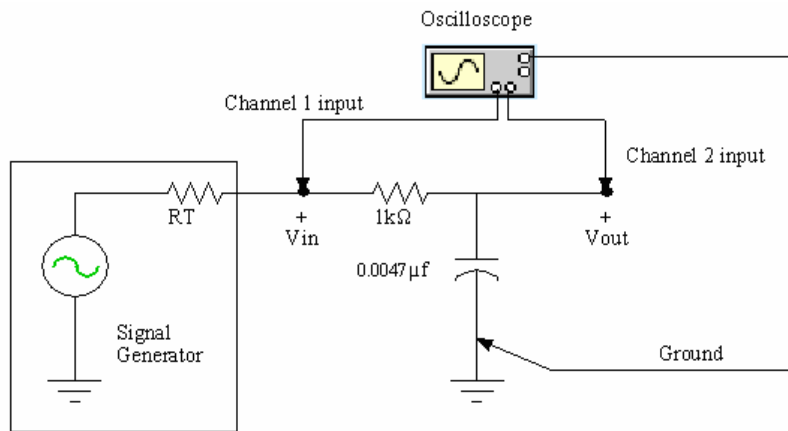

Figure 7. Low pass filter measurement circuit.
4. Build the low pass filter circuit shown in Figure 7. (Remember that the signal generator is connected to ground internally.) Make sure the signal generator is set to "high Z" mode!